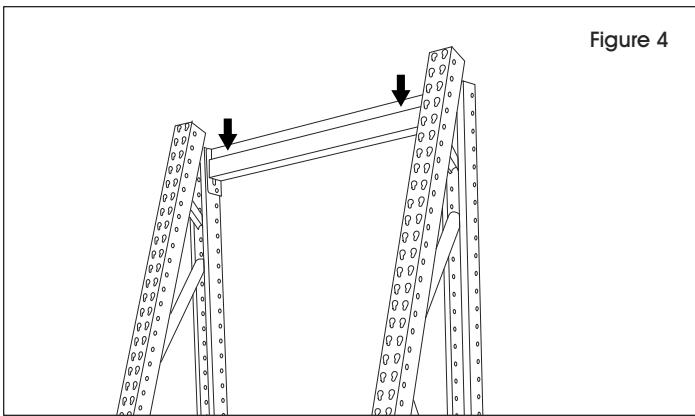

Figure 4
4. Hook and lock the third support beam to the back of the two uprights. (See Figure 4)